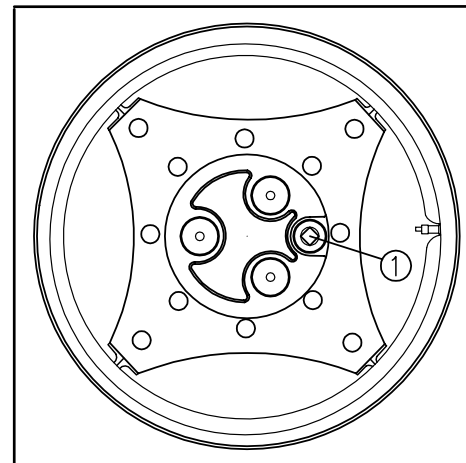

Fig.5-19 Front axle final drive:1Filter,drain and level plug.
Position the final drive plugs (1) (Fig. 5-19) on the wheel center line. Remove the plugs and check the level. Top up if necessary with oil of the specified type through the plugs.
Remove the level plug (2) (Fig. 5-19) from the central axle housing. The oil level must reach the hole.